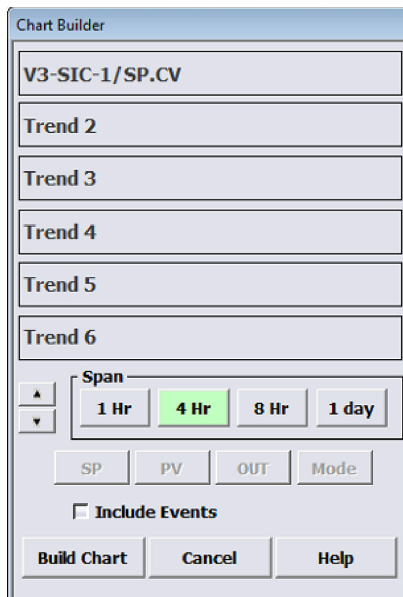

Figure 3.48. Chosen parameter added as Trend 1.
2. Click one of the menu options. The parameter you chose is added to **Chart Builder** (Figure 3.48).